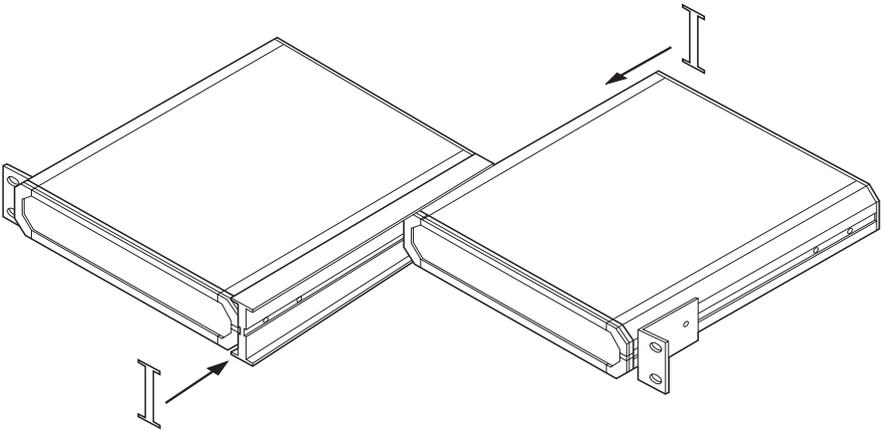

Figure 4-3. Fastening the two LHM-19.2s together.
5. Repeat the procedure in steps 3 and 4 to fasten the kit's other rail to the left-hand wall of the LHM-19.2 intended to be on the right. **Make sure** that the wider rim of this rail is opposite the short rim of the other rail, so that they will slide together and interlock as shown in Figure 4-3!